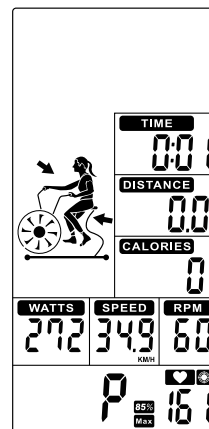

Figure 46
- ③ When start workout, **MAX HR** lights up, 65% & 85% Heart rate will switch to display. TIME/ DISTANCE/ CALORIES/ WATTS/SPEED/ RPM will calculate workout value (Figure 46).